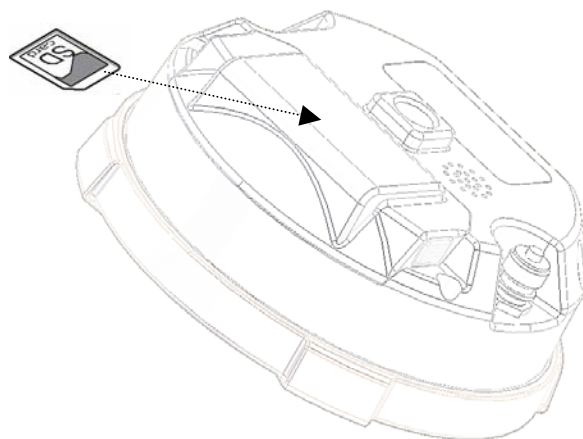

Figure 2-6. Install SD Card
**To install the SD card** ( Figure 2-6 ):